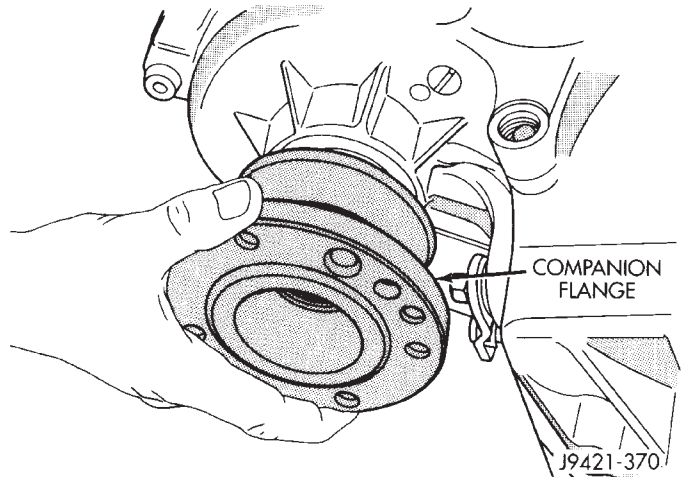

Fig. 102 Installing Companion Flange On Front Shaft
(2) Install companion flange on front shaft (Fig. 102). Then install and tighten flange nut to 176-271 N·m (130-200 ft. lbs.) torque.